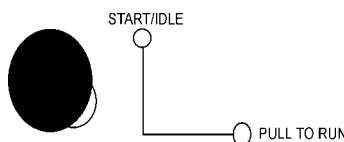

Figure 56. Engine Throttle Lever
2. Turn to the right and press in the engine throttle lever (Figure 56).